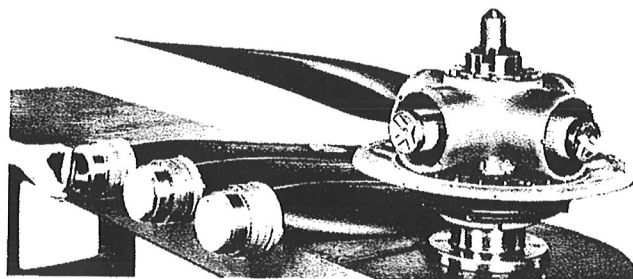

Figure 12—Removing Blade End Protecting Caps
- j. Remove the wood blade end protecting caps. (See figure 12.)